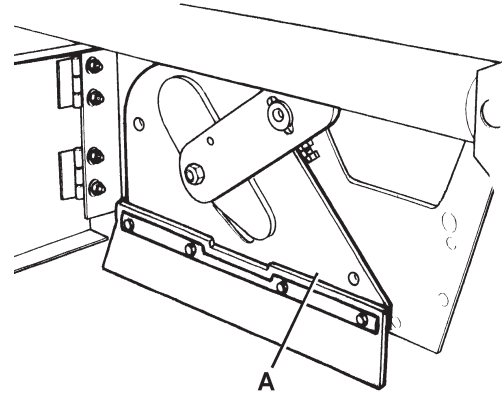
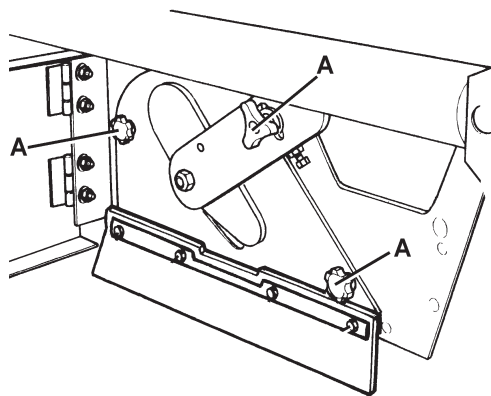

Figure 6
Figure 5
1. Drive the machine on a level floor and engage the parking brake with the pedal (75) and the lever (68).
2. Turn the ignition key (69) to "0" and remove it.
3. Release the fastener (8) and open the right door (7).
4. Unscrew and remove the knobs (A, Fig. 5).
5. Remove the main broom compartment cover (A, Fig. 6).
10. Install the main broom compartment cover (A, Fig. 6) and tighten the knobs (A, Fig. 5).
11. Close the right door (7) and engage the fastener (8).